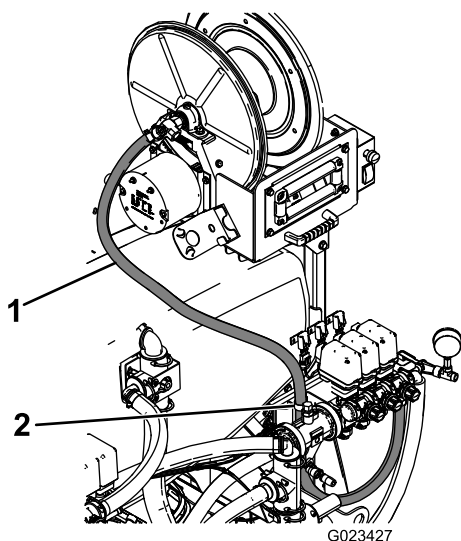

Figure 11
9. Secure the R-clamp to the rear stabilizing bracket using the existing bolt and nut (Figure 11).